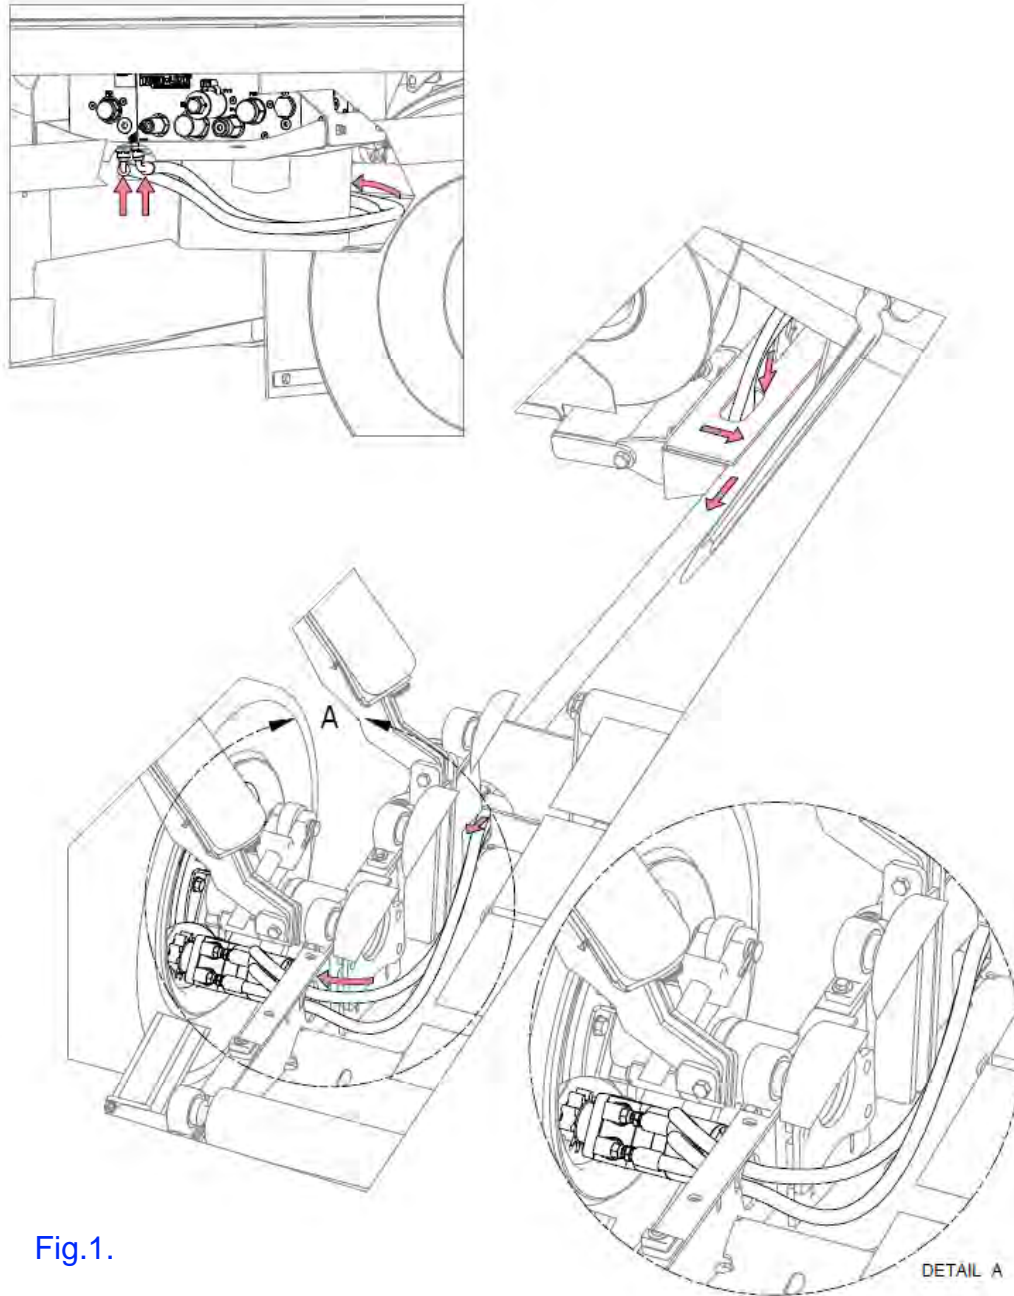

Fig.1.
2. Loosen and remove the 3 bolts from the same side as Step 1 (fig.1 on next page).
2. Remove existing brake pad from parking brake bracket. Reuse bolts to fasten supplied hydraulic motor as shown in Fig.1.
4. Route two supplied hoses from main manifold valve ports **DR** and **DF**, along front of oil tank, then through hoop wheel mount and side frame tube to middle of roller bed. Next pull the hoses through the left roller bed mount plate to the hydraulic motor. Make sure 90° hose ends are towards main manifold valve. See arrows in Fig.1.